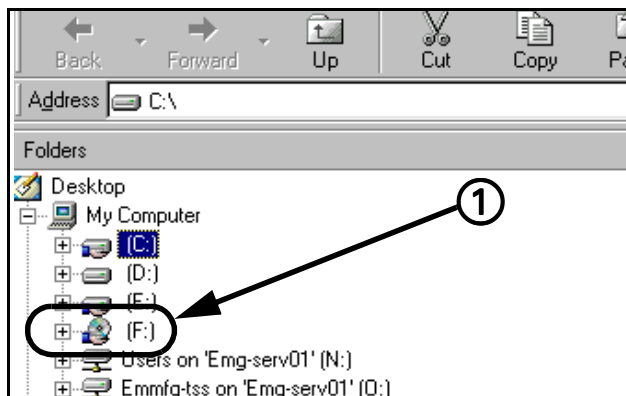

Figure 15-9 Explorer Window
4. Click on CDROM icon (① in Figure 15-9) in left pane of "Explorer" window.